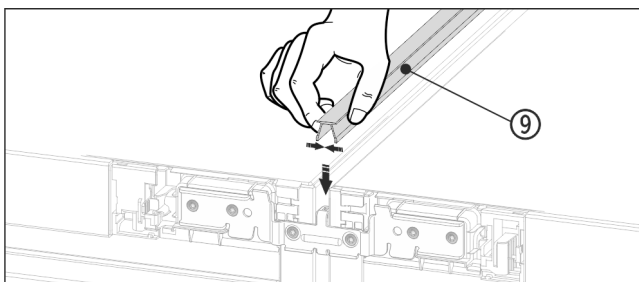

Fig. 17
- On the top press the short cover strip Fig. 17 (9) into the horizontal gap.